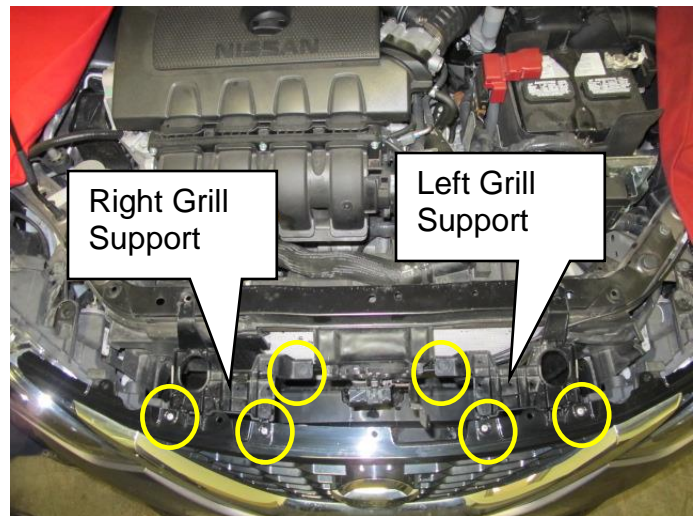

Figure 9
15. Remove the left and right grill supports (Refer to Figure 9).
- Remove (1) retaining clip per grill support (total of 2 clips).
- Remove (2) screws per grill support (total of 4 screws).